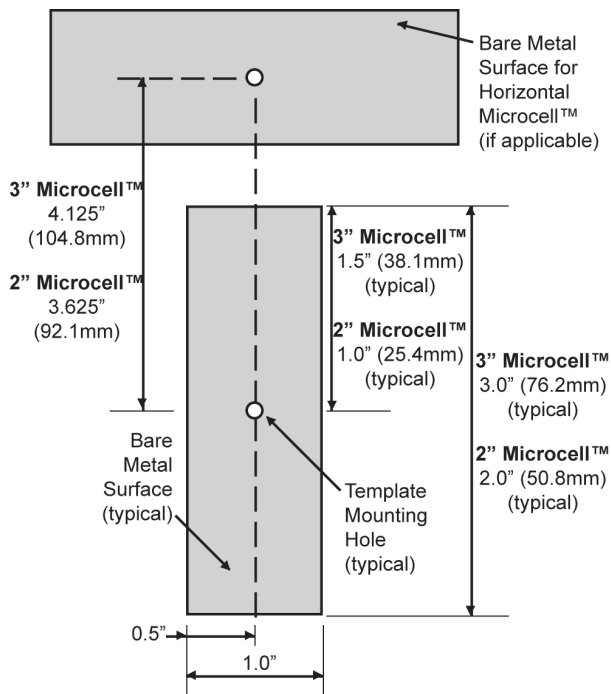

Figure 3-7. Prepared Mounting Surface.
1. See Figure 3-7. At the center of the vertical Microcell™ mounting location, drill a  $\frac{3}{4}$ " (19mm) deep hole with the #29 drill bit. This produces the template mounting hole. Repeat for the horizontal Microcell™ (if applicable).
2. See Figure 3-7. Mark the surface preparation area for the vertical Microcell™ and horizontal Microcell™ (if applicable).